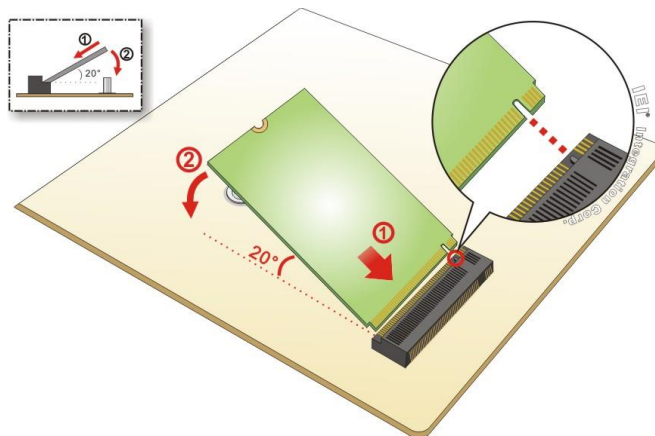

Figure 4-1: Inserting the M.2 Module into the Slot at an Angle
- Step 3:** Line up the notch on the module with the notch on the slot. Slide the M.2 module into the socket at an angle of about 20° (**Figure 4-1**).